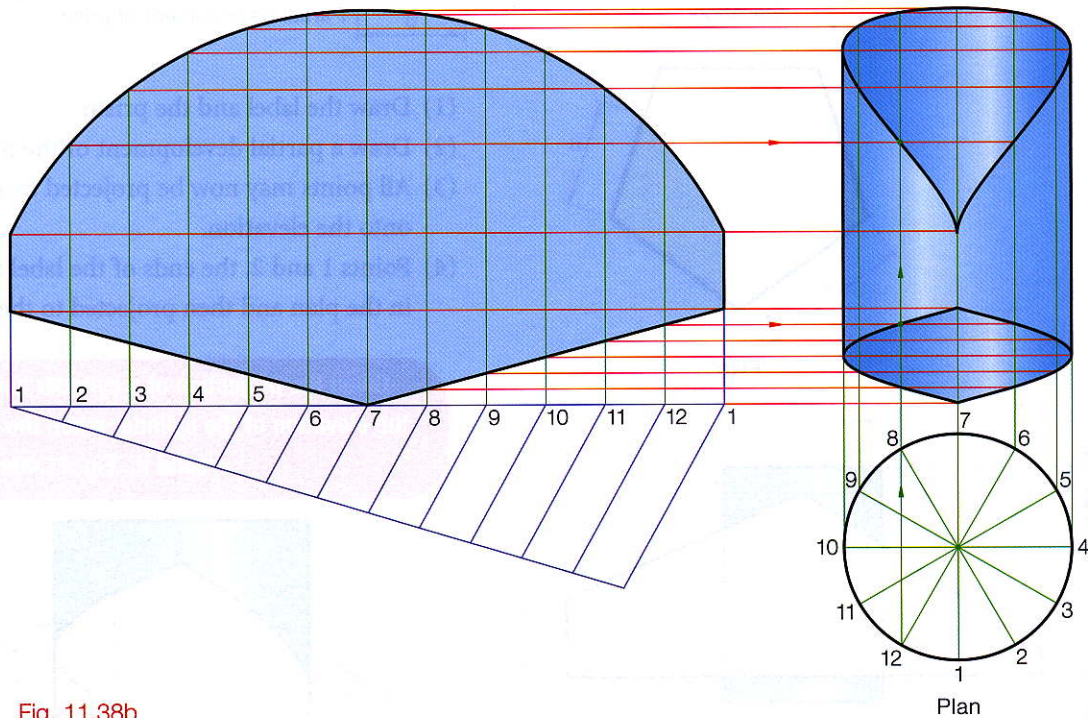

Fig. 11.38b
- (2) Draw the plan of the cylinder as a circle of radius 28.6 mm.
- (3) Divide this circle into twelve.
- (4) Divide the development into twelve equal parts.
- (5) Complete by projection, Fig. 11.38b.